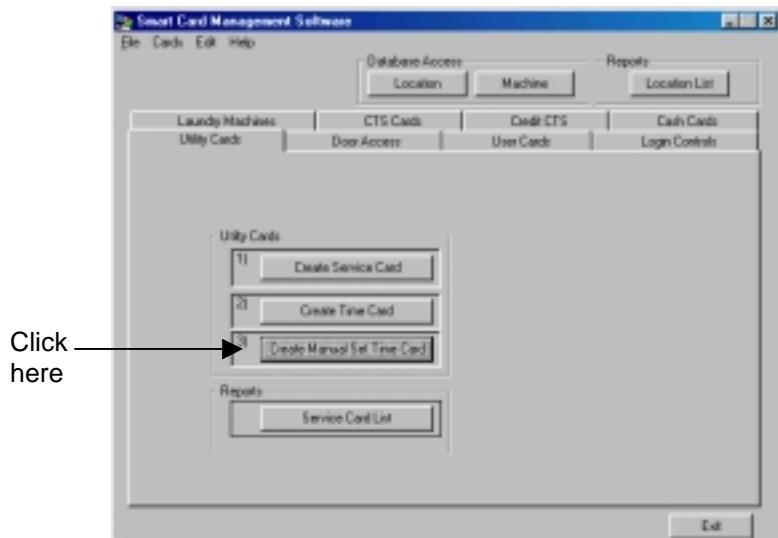

Figure 13.8 Creating a Manual Set Time Card
1. Click the Create Manual Set Time Card button in the Utility Cards Manager (Figure 13.8).